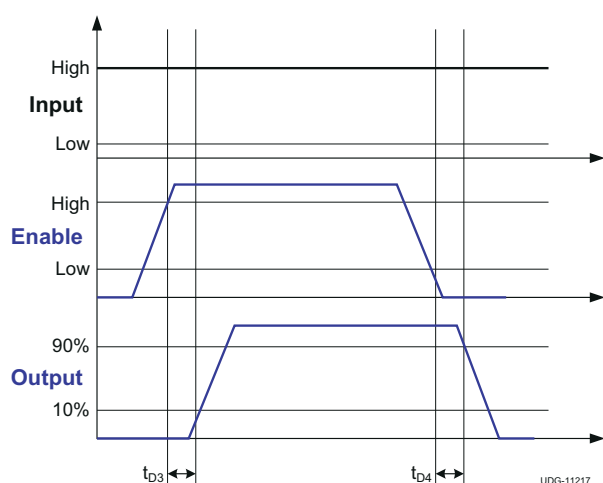
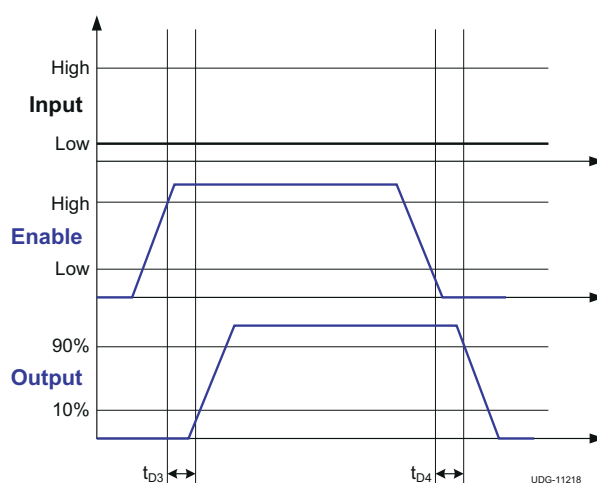
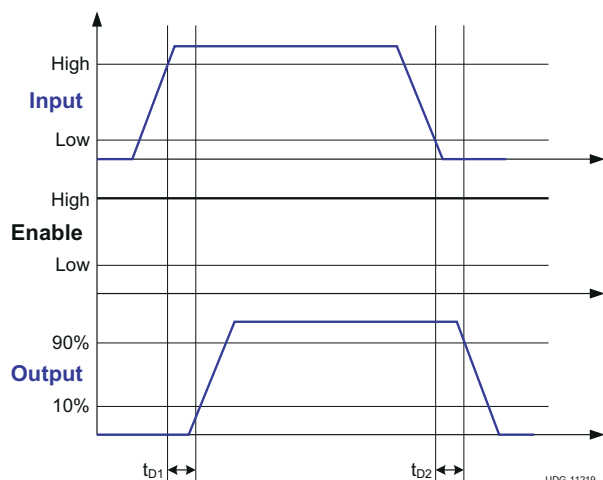
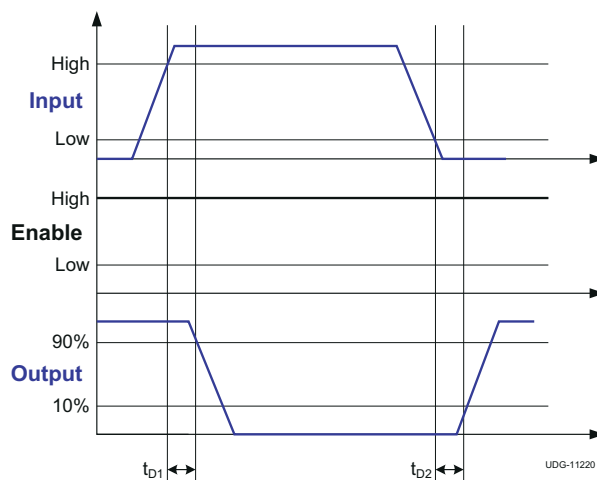

Figure 6-1. Enable Function (For Non-Inverting Input Driver Operation)
Figure 6-2. Enable Function (For Inverting Input Driver Operation)
Figure 6-3. Non-Inverting Input Driver Operation
Figure 6-4. Inverting Input Driver Operation
(1) See timing diagrams in Figure 6-1, Figure 6-2, Figure 6-3, and Figure 6-4